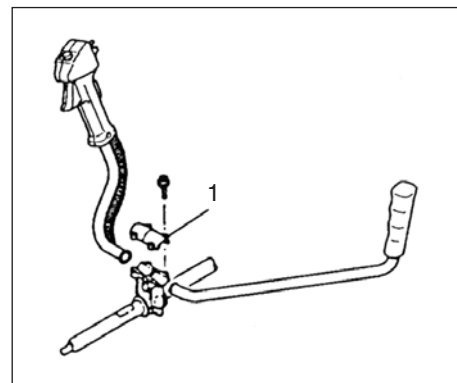

Fig. 1-2
#### Installation of handle (Fig. 1-2)
Remove the handle bracket (1) from the assembly. (Fig. 1-2)